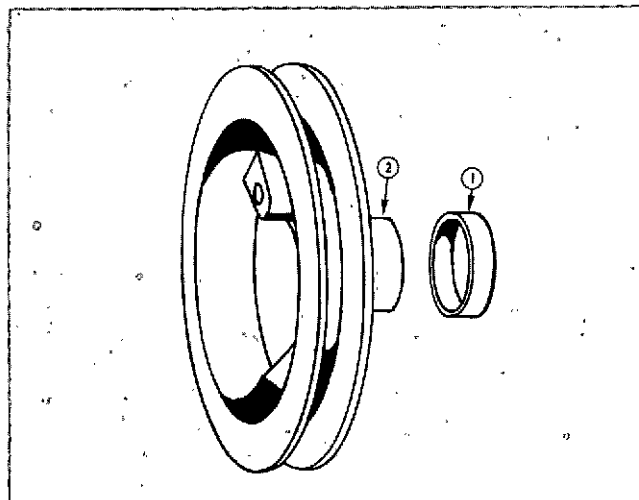

Fig. 9-1-1, V10908. Pulley and sleeve
2. Press new sleeve (1, Fig. 9-1-1) onto pulley hub (2) with mandrel. Consult latest Parts Catalog for correct pulley/sleeve combination. Some pulleys have longer hubs and therefore require different sleeves.